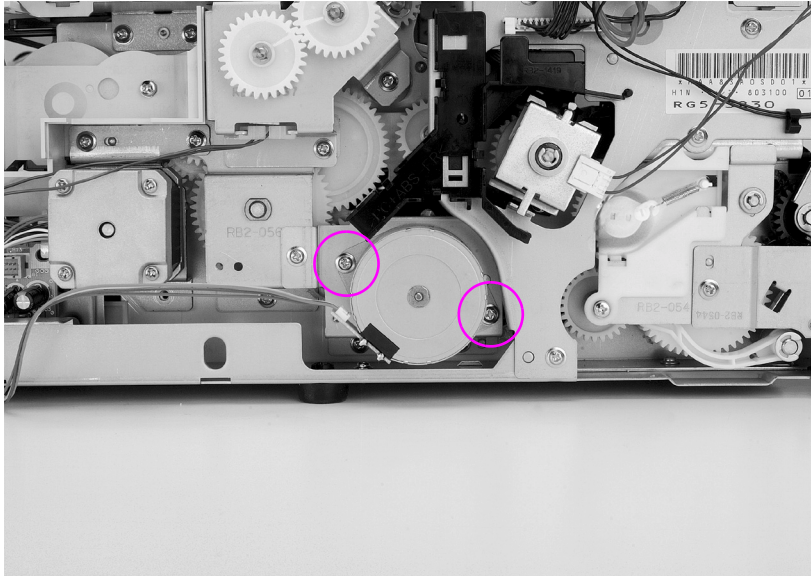

Figure 6-49 Paper path motor removal and replacement
- 4 Remove the two screws on both sides of the paper path motor shown in Figure 6-49.